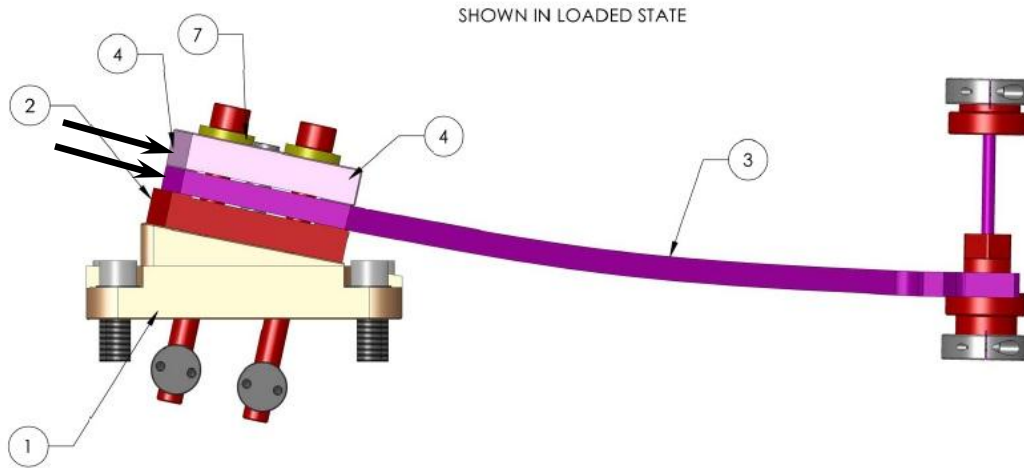

Figure 96: D0902485 Stage 1-2 Blade Assembly Drawing in the Loaded State
- Insert and snug (8) 1/2"-13 x 5.5" Eastwood Bolts Ag Plated with (8) 1/2" McMaster 98125A033 Washers. Before torqueing, make sure that D0902502 Stage 1-2 Spring Blade & D0902695 Stage 1-2 Spring Clamp Cap are against the (2) 1/2" x 2" dowel pins. If they are a little bit loose, push D0902502 & D0902695 against these pins as shown by the black arrows on Figure 96.